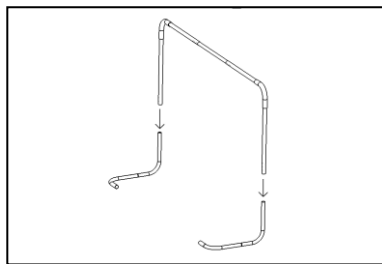

Figure 5
- c. While the SUPPORT TUBES are oriented upward, push the open ends of the L TUBES over the SUPPORT TUBES, as show in Figure 5. Do not use screws yet.